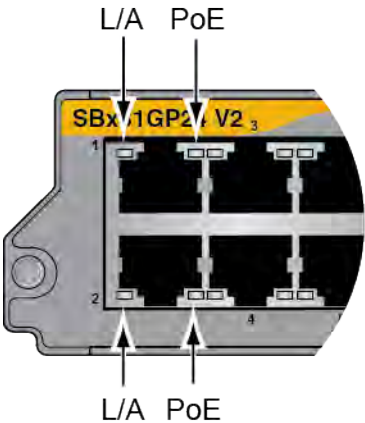

Figure 20. Port LEDs on the AT-SBx81GP24 Versions 1 and 2 PoE Line Cards
**LEDs** The ports on the AT-SBx81GP24 PoE Line Cards have two LEDs. The LEDs are shown in Figure 20 on page 48 and described in Table 9 on page 48.